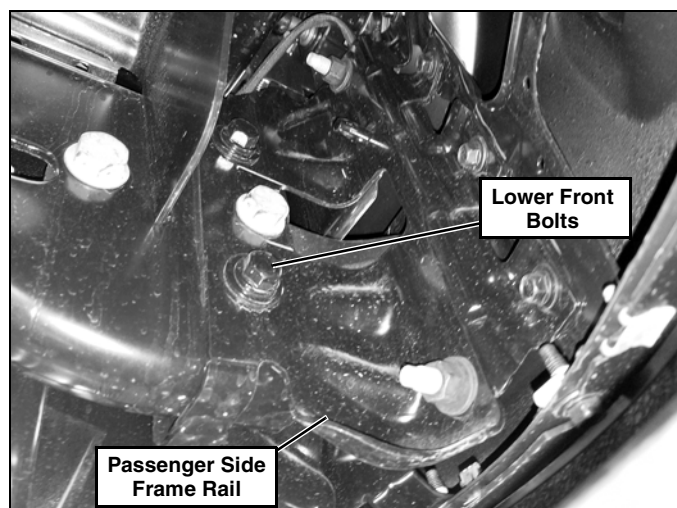

Figure 1
1. Remove the lower front bolts in the driver and passenger side frame rail. (See Figure 1.)